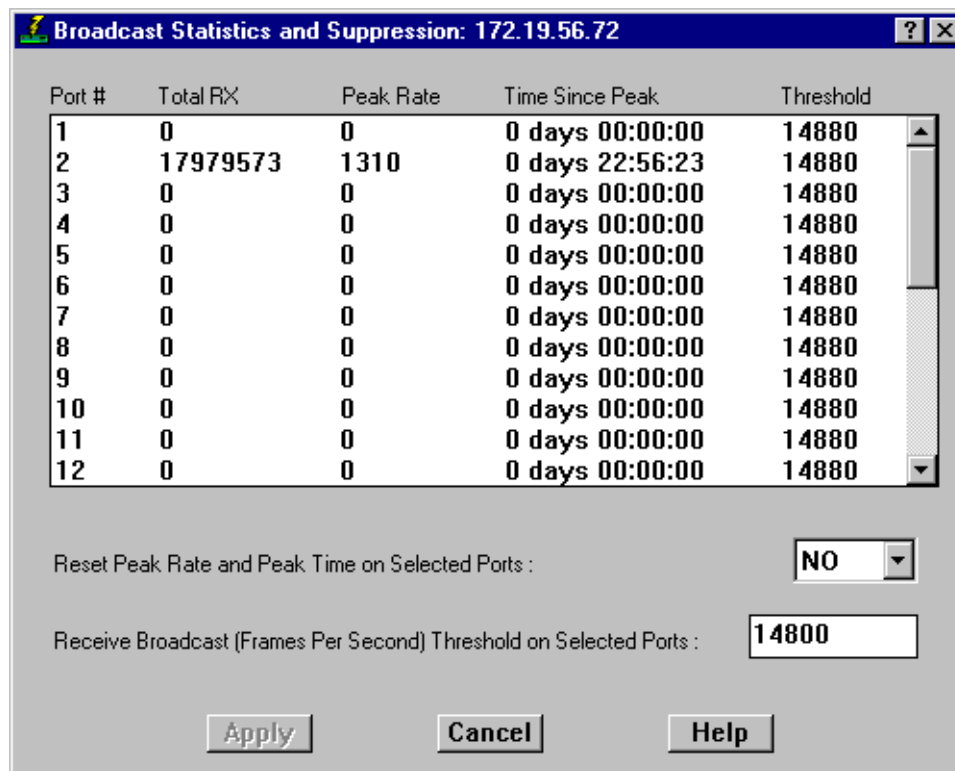

Figure 2-23. The Broadcast Statistics and Suppression Window
2. Click on **Broadcast Suppression**. The Broadcast Statistics and Suppression window, Figure 2-23, will appear.